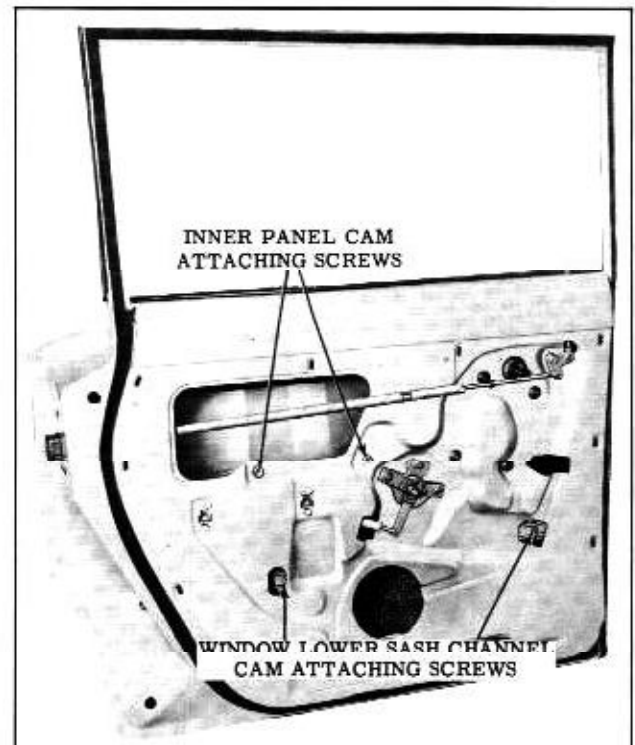

Fig. 15-40 Inner Panel Cam and Window Lower Sash Channel Cam Attachment
1. Raise door window. Remove door trim assembly and detach inner panel water deflector sufficiently to expose inner panel cam attaching screws. (Fig. 15-40)
2. Lower door window sufficiently to gain access to sash channel cam attaching screws through access holes in door inner panel and remove screws. (Fig. 15-40)
3. Carefully lower door window and through access holes in door inner panel remove screws securing window lower sash channel cam to window lower sash channel. (Fig. 15-40)
- To adjust rear door window in or out, lower door window. Loosen rear glass run channel retainer assembly attaching screw and adjust guide assembly as required; then tighten screw. (Fig. 15-40)
- To correct a condition where the glass is cocked in the glass run channels, loosen door window inner panel cam front and/or rear attaching screw(s), adjust cam as required, and tighten screws. (Fig. 15-40)